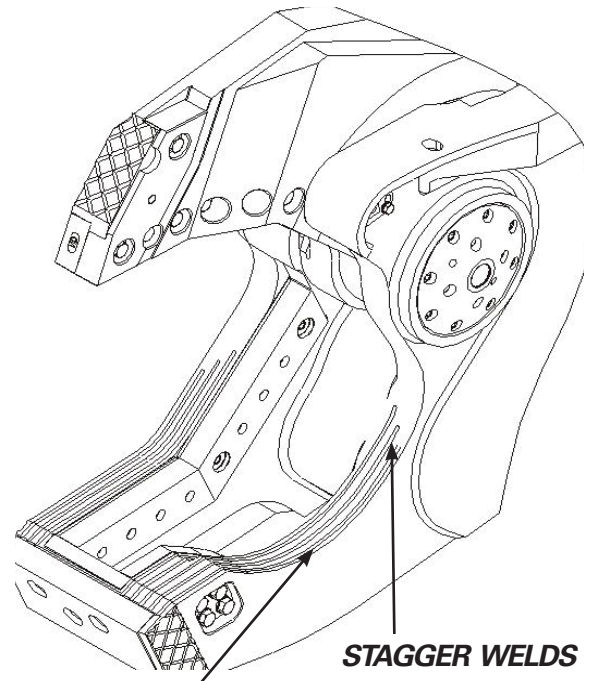

FIGURE 5-38
- Stagger the ends of the welds and do not end a weld adjacent to a blade bolt hole. See **Figure 5-38**.